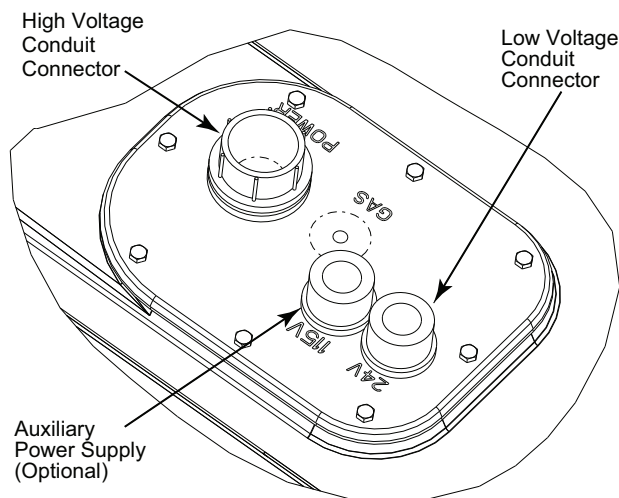

Fig. 29 — Thru-Base Connection Fittings
The 3/4 in. bulkhead connector enables the low-voltage control wires to pass through the basepan. The 1/2 in. bulkhead connector allows the high-voltage power wires to pass through the basepan. See Fig. 29.
3. Place the gasket over the embossed area in the basepan, aligning the holes in the gasket to the holes in the basepan. See Fig. 29.